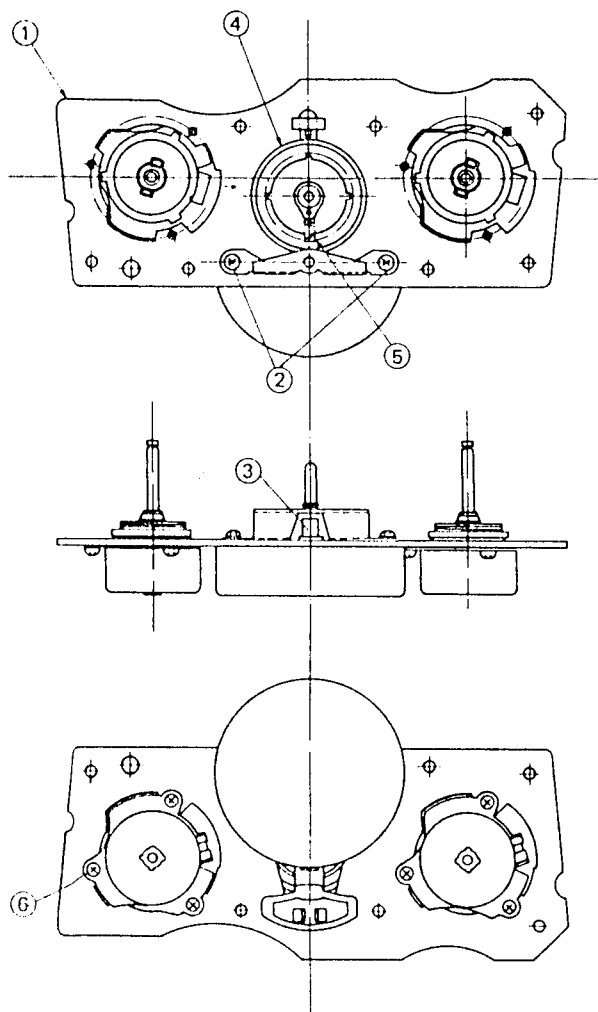

Figure 30.
- 1) Check that the reel idler (4) has not moved off the reel chassis (1), and that the reel idler spring (5) is properly attached to the reel idler.
- 2) Taking care not to damage the reel motor pulley (3), install a replacement reel motor with two screws (XBPSD30P07J00) such that the reel motor leads run in the directions shown in figure 30 (use of longer screws will damage the motor).
- 2) Move the reel idler to the center of the reel chassis as shown in figure 30, and then pull slightly to the reel motor side to remove the reel idler.
- 1) Fit the replacement brake unit, facing the way shown in figure 30, by means of the three fixing screws (XBPSD26P04000).